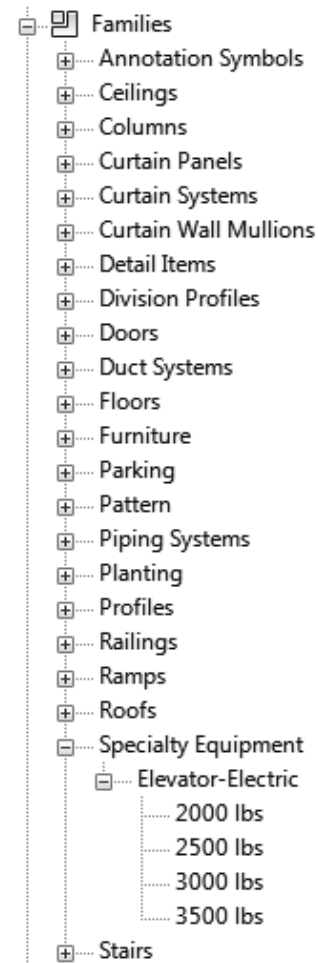

FIGURE 3-4.1 Elevator family:
5. In the *Project Browser*, click the plus next to **Families** to expand the list (Figure 3-4.1).